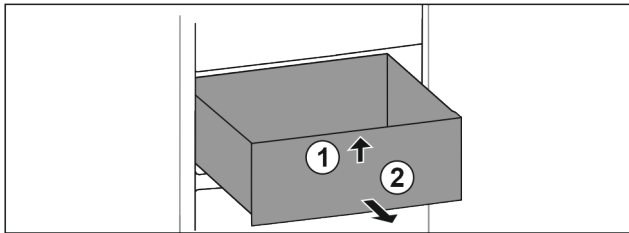

Fig. 79
- ▶ Lift up drawer at the front. Fig. 79 (1)
- ▶ Remove drawer to the front. Fig. 79 (2)